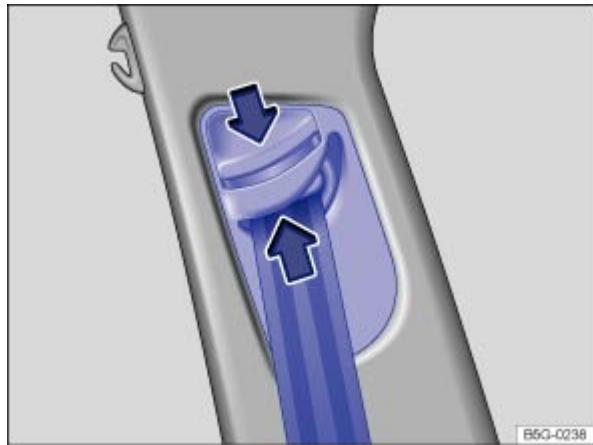

Fig. 30 Next to the front seats: Safety belt height adjuster.
- Pinch the safety belt attachment together as indicated by the arrows and hold ⇒ Fig. 30 .